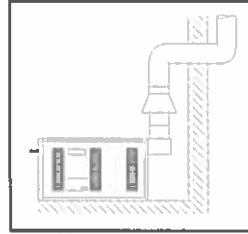

FIG. 11 (ÉVACUATION NATURELLE)
- 1) ÉVACUATION NATURELLE (FIG.11)